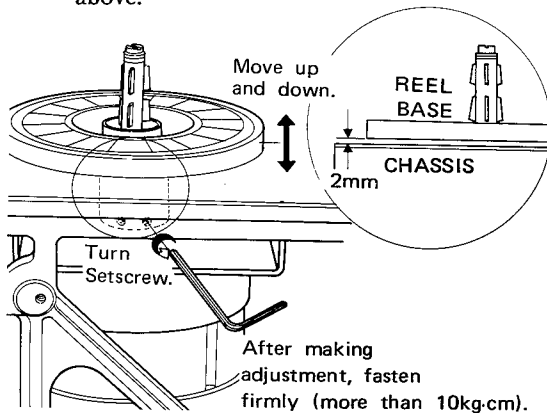

Fig. 9
2. Loosen screw to allow a clearance of 2mm between the panel and reel base as in Fig. 9.